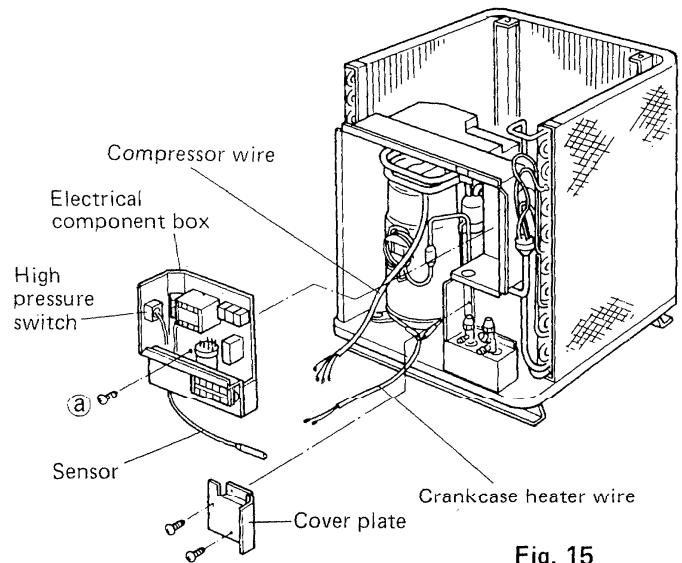

Fig. 15
- ① Compressor wire
- ② Crankcase heater wire
- ① Remove the cover plate.
- ② Loosen the fitting fixing the sensor and remove it.
- 4) When the above work has been completed, the electrical component box can be removed by removing the screw ③ Fig. 15